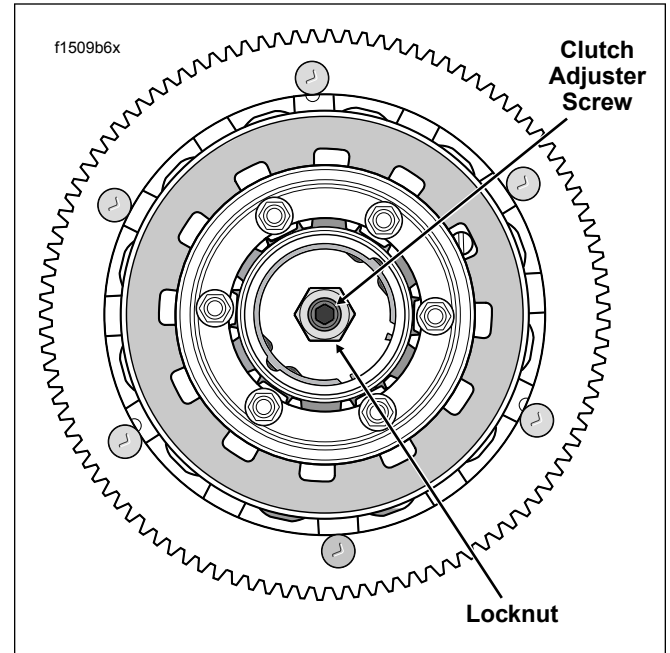

Figure 1-9. Clutch Assembly
4. See Figure 1-9. Loosen locknut on clutch adjuster screw. To take up all free play in push rods, turn screw inward (clockwise) until lightly seated.